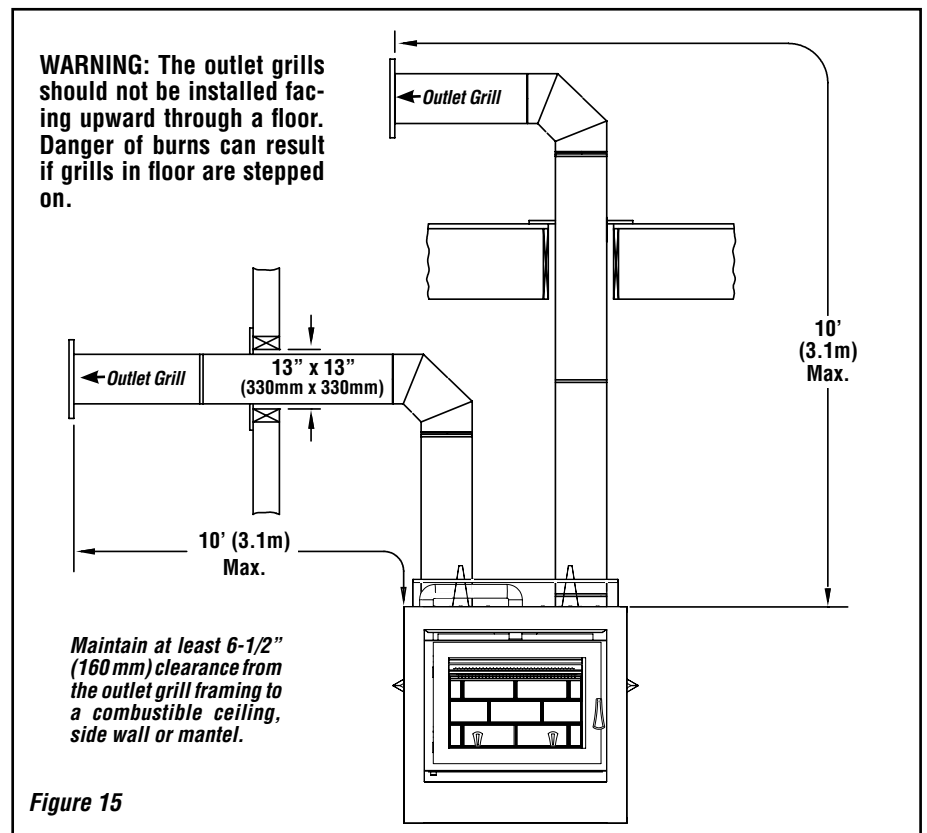

Figure 15
**Maximum length** See Figure 15
When installing the double outlet system, the hot air outlets can be installed in the same room as the fireplace, or one or both of the outlets can be installed in adjacent or upper rooms. Installing the ducts at different elevations will tend to exhaust more heat out of the higher outlet (Figure 15).